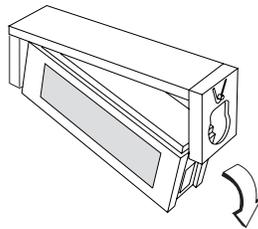

Figure 27. Sliding the display out of the holder
5. Remove the display by sliding it out of the holder (see Figure 27).